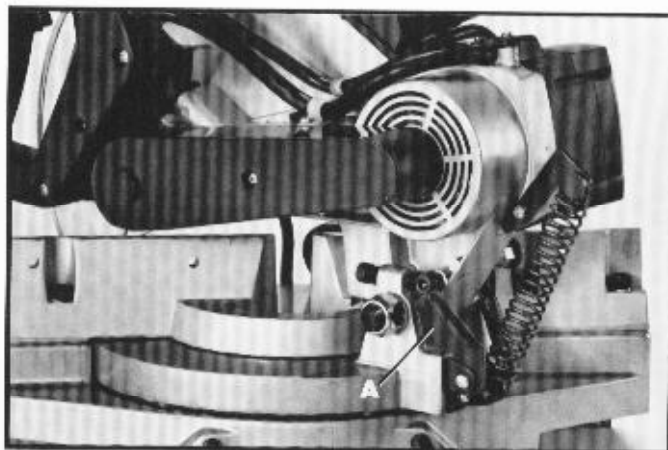

Fig. 3
1. Push down on cuttinghead handle and rotate lever (A) Fig. 3, to the rear.